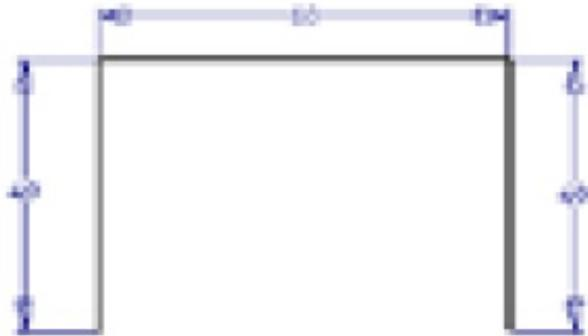

Figure 14-44 First 2D sketch
- a. Create a 2D sketch consisting of three lines on the XY plane and then exit the sketching environment, refer to Figure 14-44.
2. Start a new metric part file and then draw the first sketch on the XY plane, as shown in Figure 14-44.